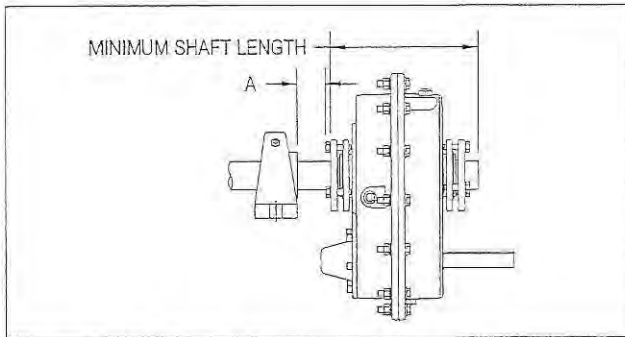

Figure 5 – Minimum Recommended Dimensions
1. One bushing assembly is required to mount the reducer on the driven shaft. An assembly consists of two tapered bushings, bushing screws and washers, two bushing backup plates and retaining rings, and necessary shaft key or keys. The driven shaft must extend through the full length of the reducer. If the driven shaft does not extend through the reducer do not use the standard tapered bushings; instead use the short shaft bushings as described in the Short Shaft Bushings section that follows. The minimum shaft length, as measured from the end of the shaft to the outer edge of the bushing flange (see Figure 5), is given in Table 1.
plates and retaining rings, and necessary shaft key or keys. The driven shaft does not need to extend through the reducer for the short shaft bushing to operate properly. The minimum shaft length, as measured from the end of the shaft to the outer edge of the bushing flange (see Figure 5), is given in Table 1.